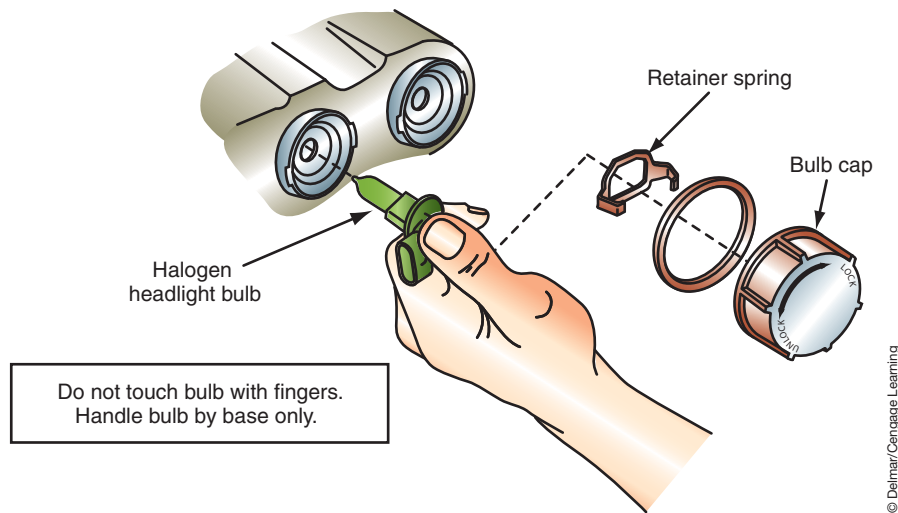

FIGURE 8-3 The correct method of handling the composite bulb during replacement.
8. Place the new bulb in the socket (Figure 8-3). The flat part of the base should face up. It may be necessary to turn the bulb slightly to align the locating tabs.